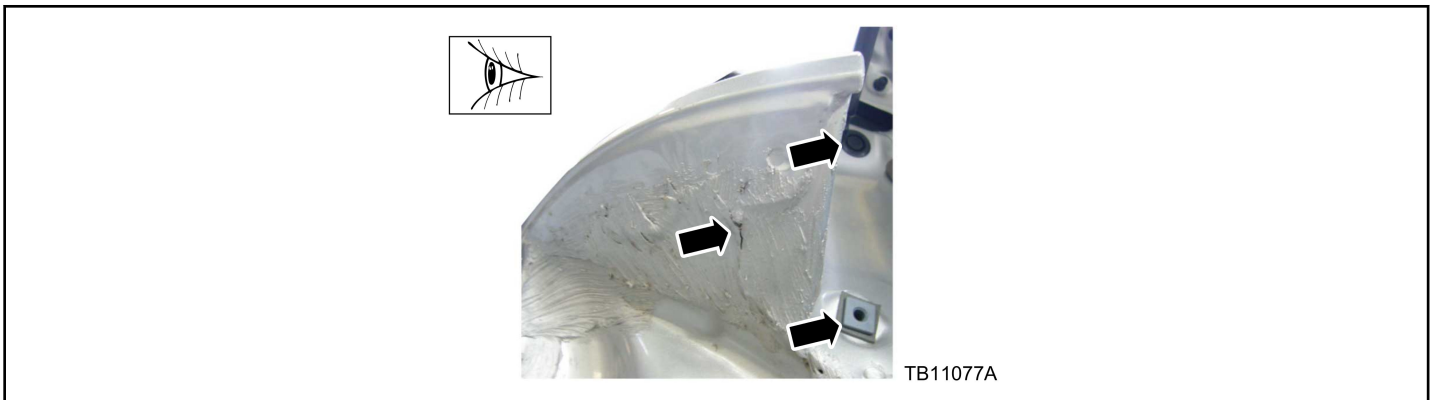

Figure 9 - Article 17-0044
5. Inspect the horizontal and vertical surfaces of the rear lamp mounting area for holes in the body sealer. Verify all body plugs and plastic anchor nuts are properly installed. (Figure 9)